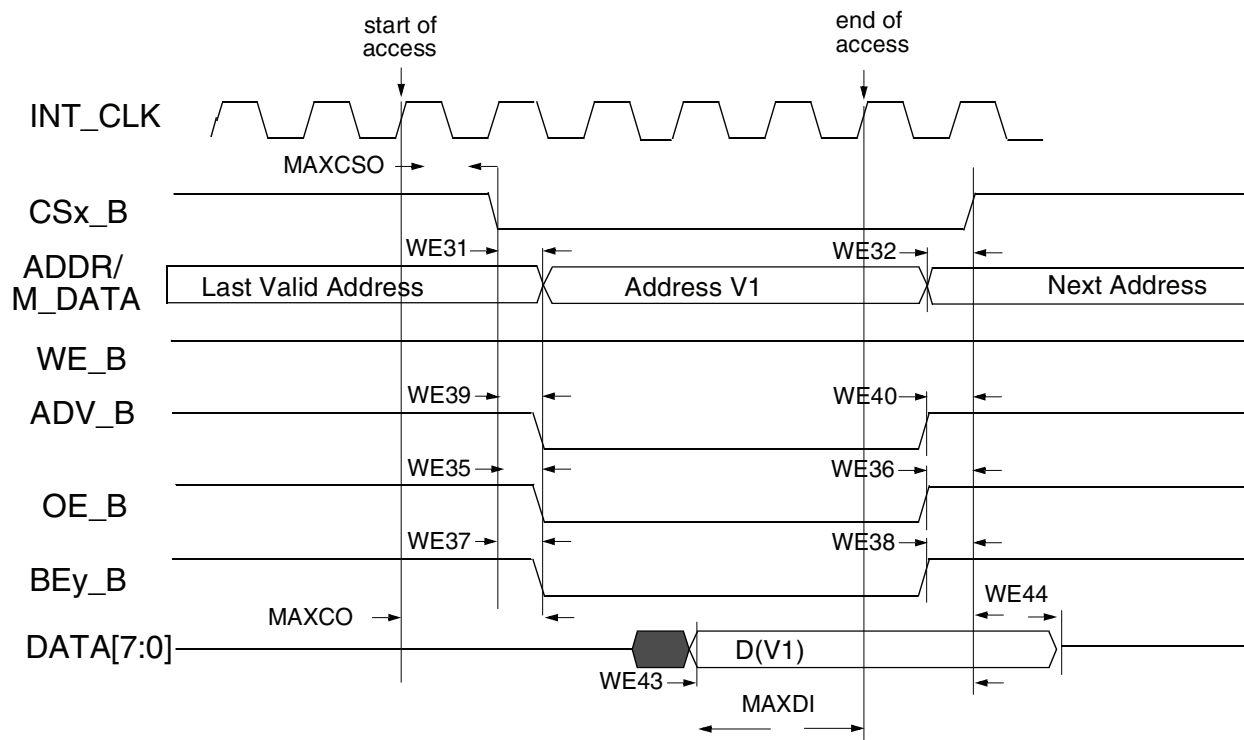

Figure 16. Asynchronous Memory Read Access (RWSC = 5)
Figure 16 through Figure 20 and Table 39 provide timing parameters relative to the chip select (CS) state for asynchronous and DTACK EIM accesses with corresponding EIM bit fields and the timing parameters mentioned above.
Asynchronous read & write access length in cycles may vary from what is shown in Figure 16 through Figure 19 as RWSC, OEN & CSN is configured differently. See the i.MX 6Dual/6Quad reference manual for the EIM programming model.